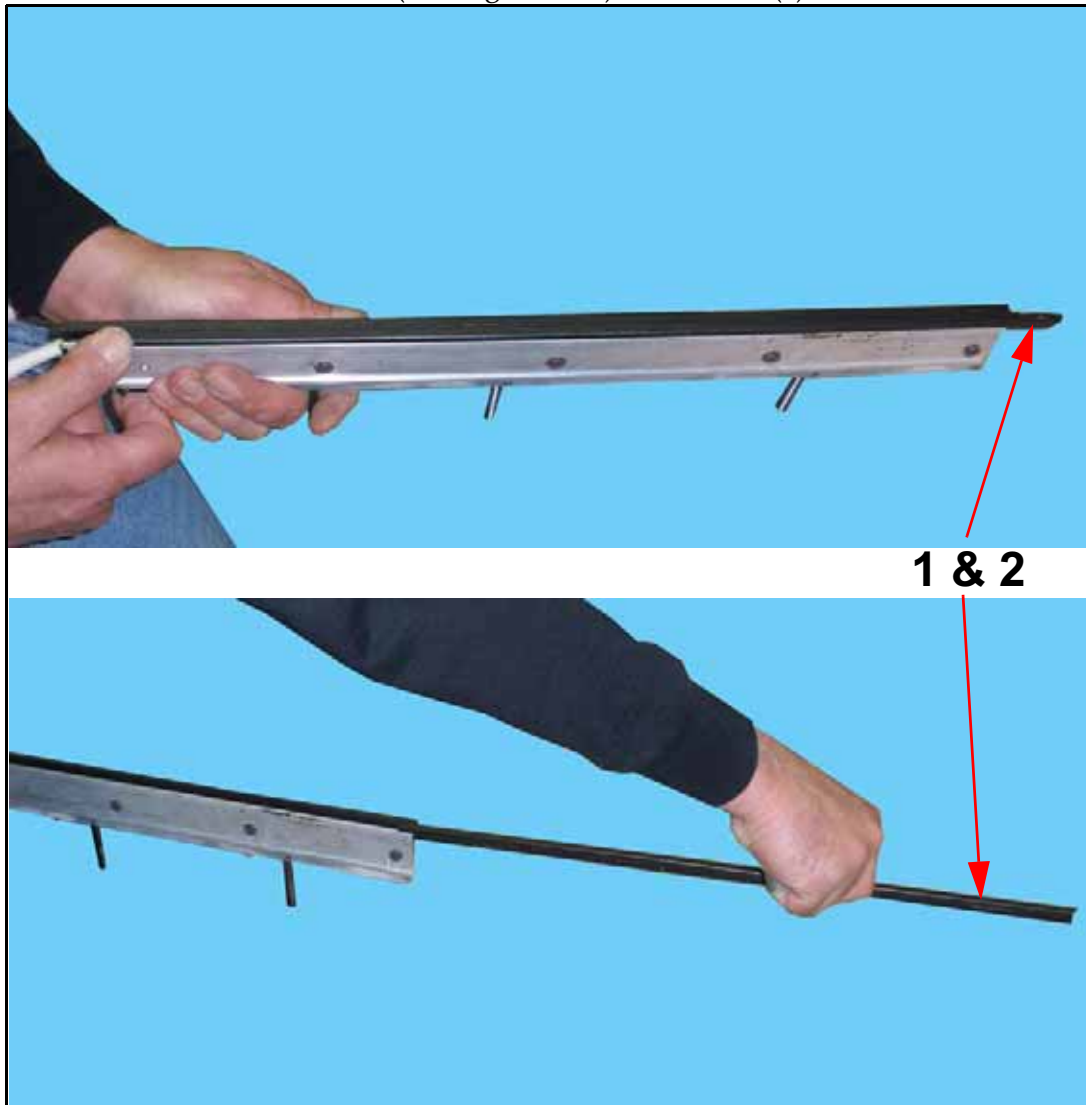

Figure 7-43. Blade and Insert Removal
5 Slide blade (1 in Figure 7-43) and inserts (2) out of seal bar.